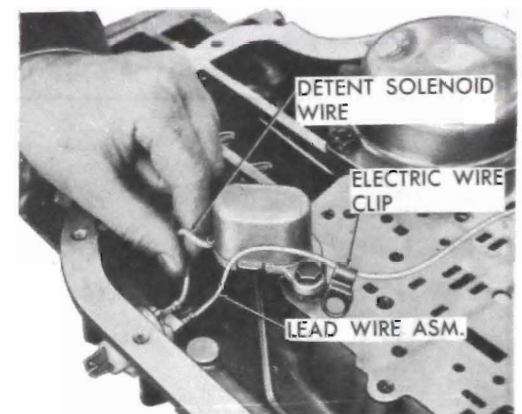

Figure 76-516
6. Disconnect detent solenoid wire from case connector. See Figure 76-516.